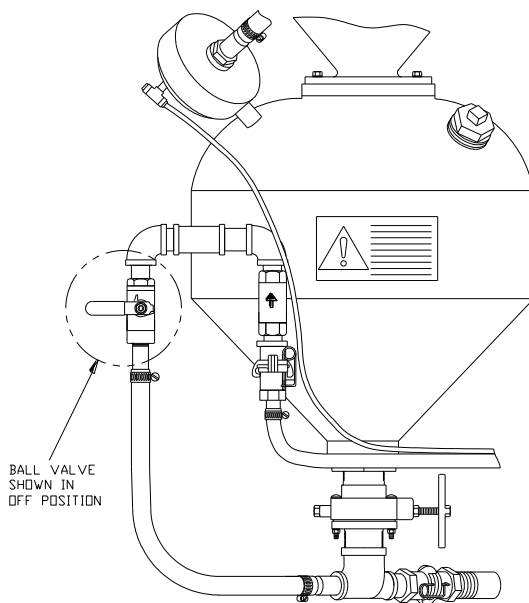

Figure 14. Closed Choke Valve
B) Close the choke (ball) valve on the pressure vessel pipe string. (See Figure 14).